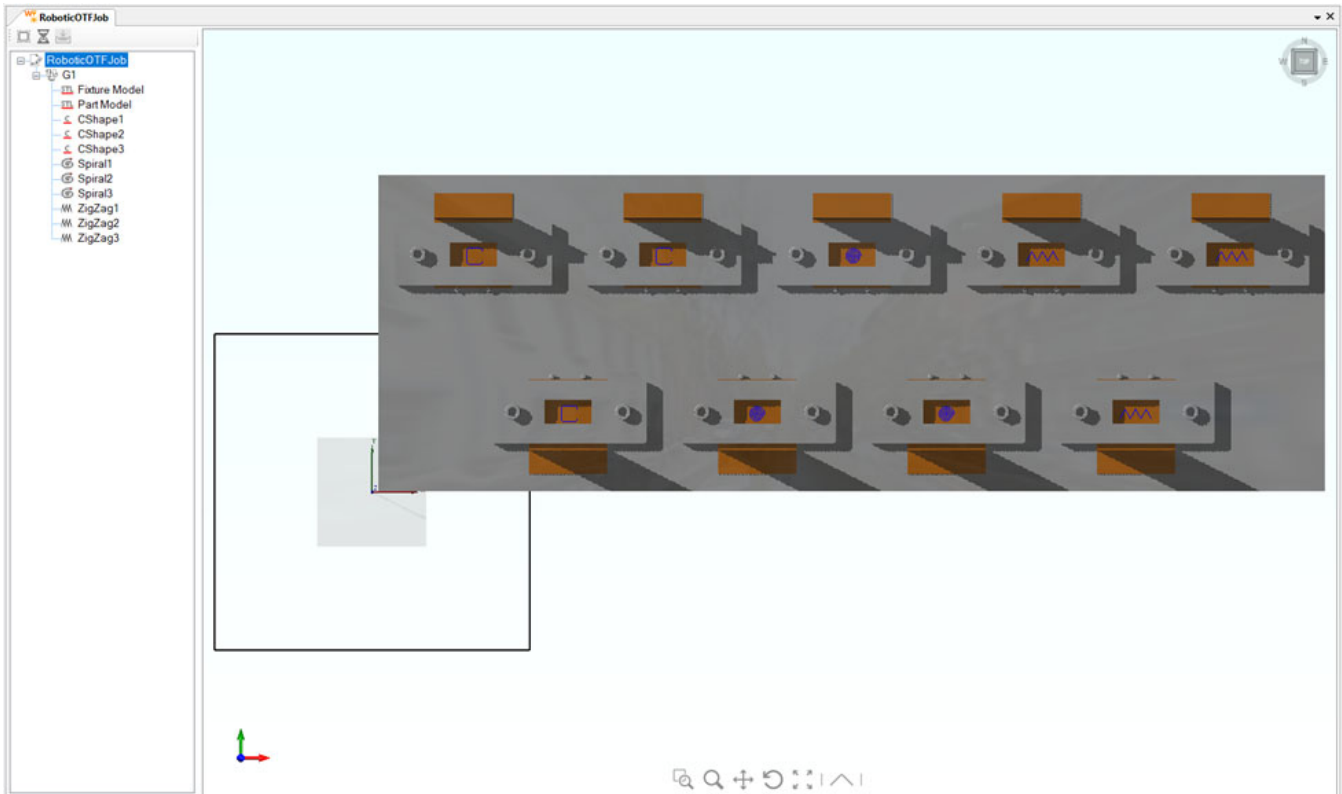

Figure 238: Example Weld Fixture with Process Objects
5. Users can now copy, paste, or create new Process Objects and position them relative to the STL model(s) as desired using the Nudge Tool. See Figure 238 (below), which details an example weld fixture with Process Objects placed in the appropriate weld locations.